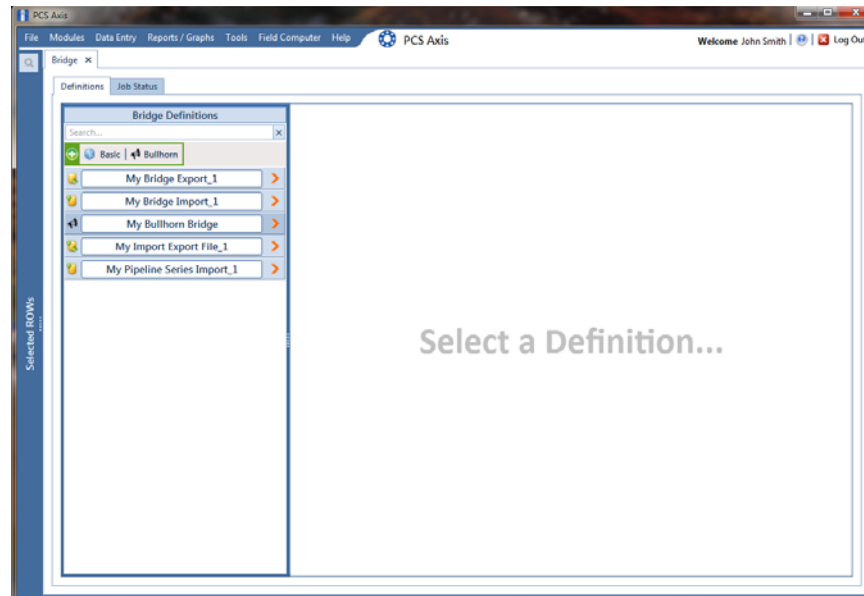

Figure 10-69. Select Definition
- 2 Click **Tools > Bridge** to open the *Bridge* window (Figure 10-69).